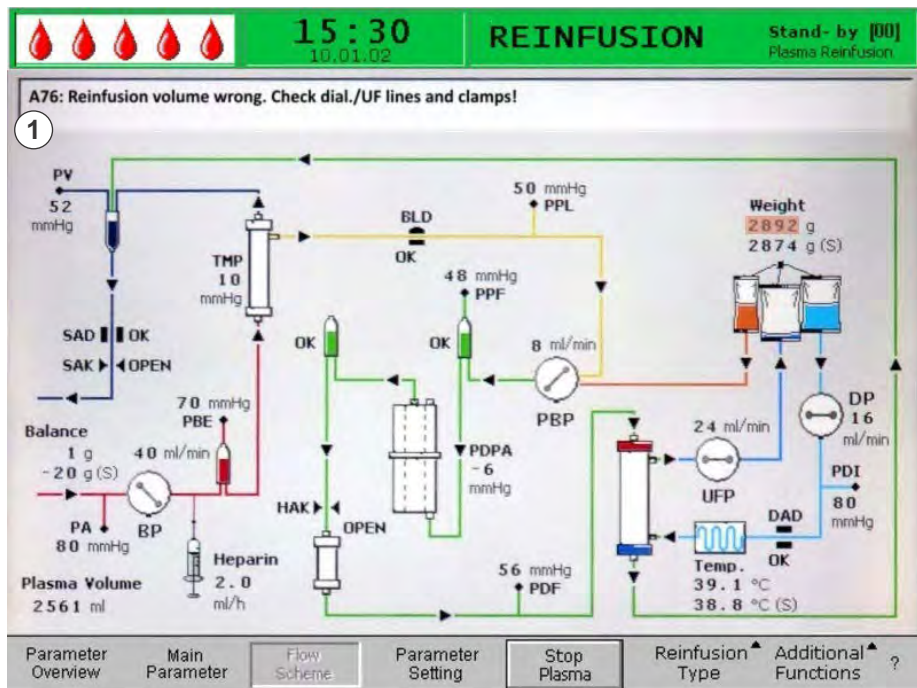

Fig. 9-1 Alarm indication in Alarm/Note line
An alarm situation always requires special attention and immediate processing by the user. Alarms are displayed in the Alarm/Note line (Fig. 9-1, ①) and accompanied by an acoustic alarm tone.